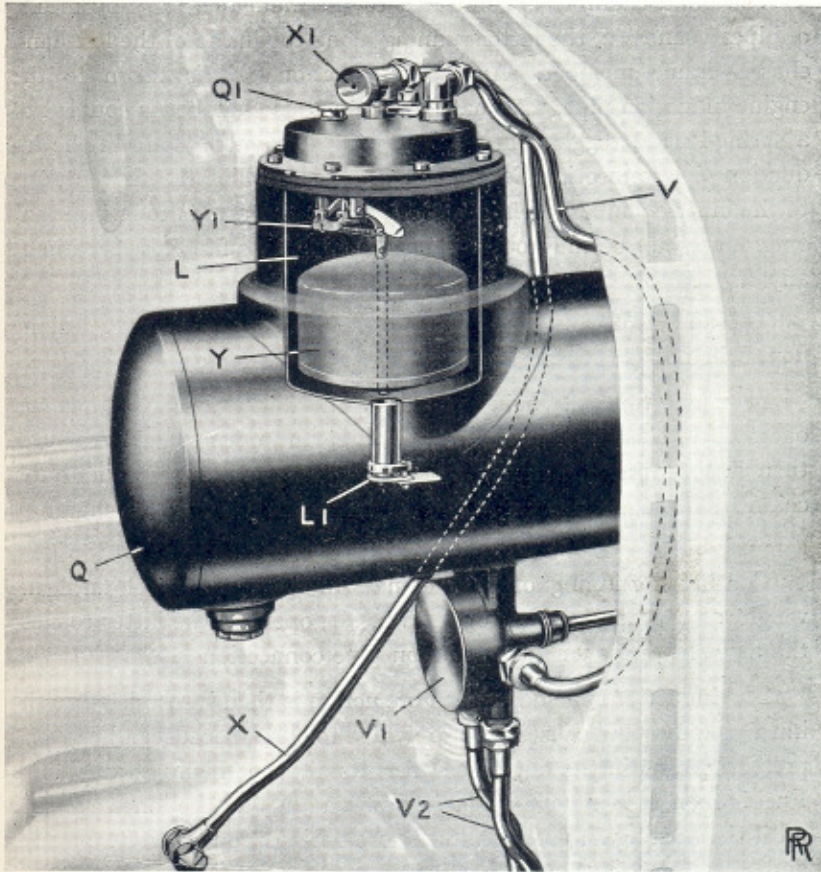

FIG. 12. VACUUM FEED TANK.
**The Fuel System.** A vacuum feed tank is located on the dashboard, and fuel from the tank at the rear of the chassis is drawn through one of two pipes arranged inside the near side frame member. These pipes terminate in the rear tank, the one extending to the bottom of the tank and the other to a point just short of the bottom in order to create a "reserve" supply of fuel. A cork-seated change-over tap (VI, Fig. 12) is located on the dashboard and controlled from the driver's side, having its dial plate marked **R** (Reserve), **O** (Off), and **M** (Main). In the off position the supply from the main tank to the vacuum tank is shut off, and also that from the vacuum tank to the carburetter.
**Action of Vacuum Feed.** The working of the automatic fuel feed will be understood by reference to Fig. 12. This illustrates the vacuum tank on the dashboard, and shows its internal working parts.